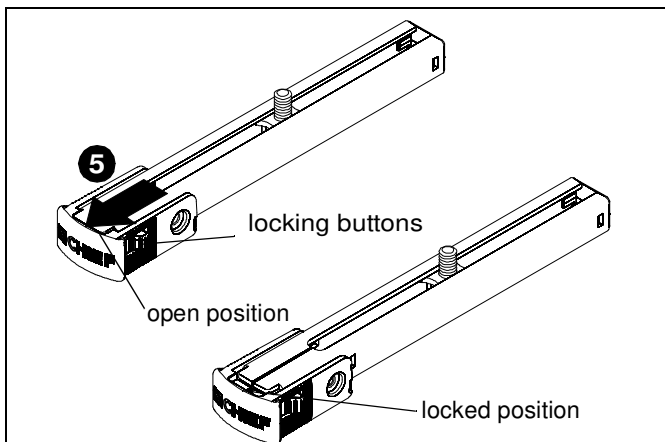

Figure 5
5. Press locking buttons on SLBU/SLMU leg (B) firmly and simultaneously push clip cover away from enclosed sliding stud mount bracket until clip cover is in the locked position. (See Figure 5)